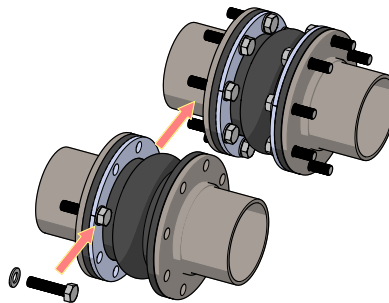

Figure 15: Secure Retaining Rings to Assembly
Step 4: Secure the retaining rings in place with the flange bolting so that the bolt head and washer are against the retaining rings as shown in Figure 15. Washers must be used at least at the split in the retaining rings or else flange leakage may occur.